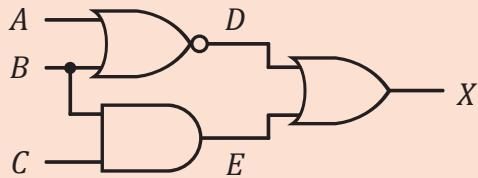

Figure 11.18
2. Substitute each of the logic gates in Figure 11.18 using only NAND gates. Simplify your circuit to use as few NAND gates as possible.